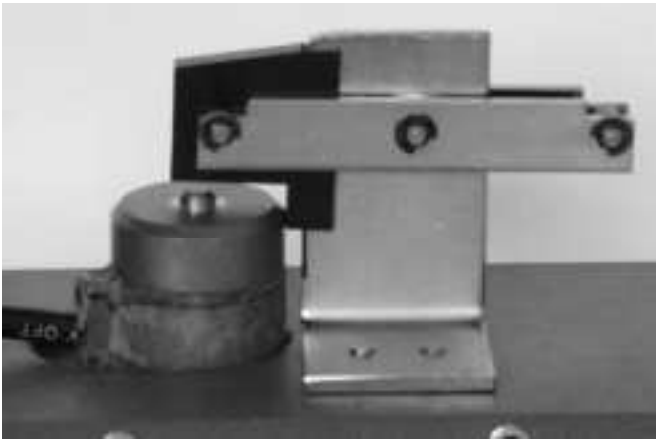

Fig. 8 ED impulse coil with seesaw interface
- If a fault occurs, an external relay signal wired into the capacitors' control unit (internal NEKO or external C-bank), causes NEKO unit to discharge its energy into ED coil [Fig. 8]. The coil trips the breaker's quick latch and opens breaker's contacts in less than 3ms.